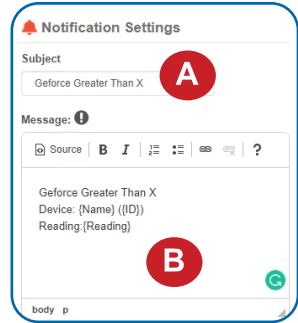

Figure 24
See Figure 24.
- B.** Customize the message body for the notification. See Figure 24.